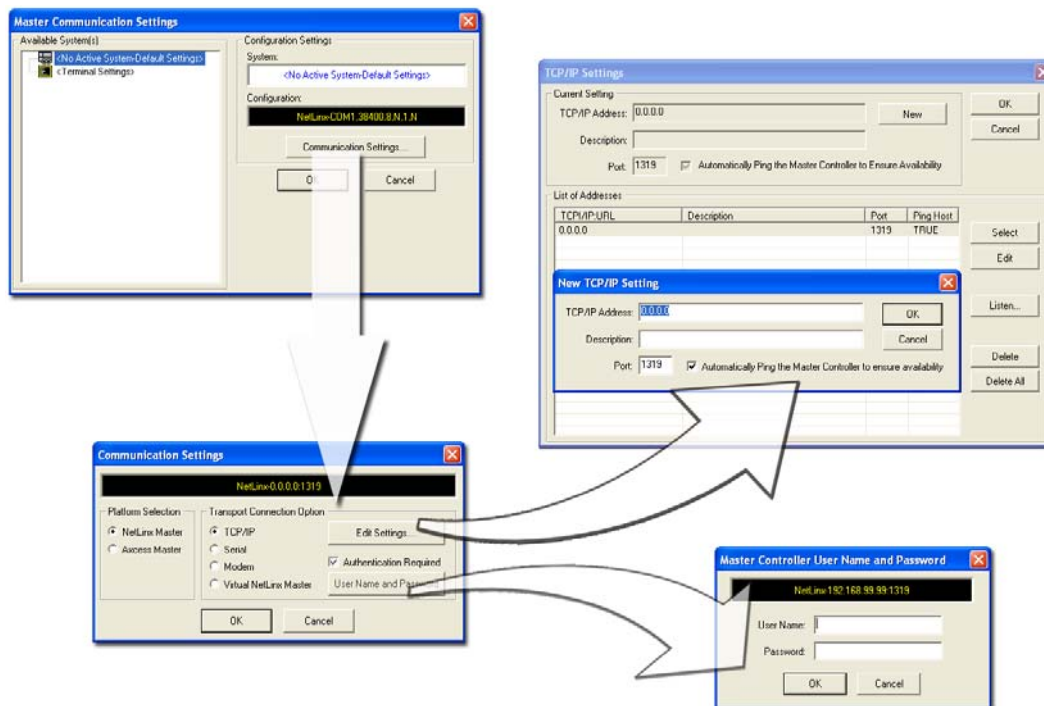

FIG. 93 Assigning Master Communication Settings and TCP/IP Settings
- Select **Settings > Master Communication Settings** from the Main menu to open the Master Communication Settings dialog (FIG. 93).
- Click the **Edit Settings** button (on the *Communications Settings* dialog) to open the TCP/IP Settings dialog (FIG. 93). This dialog contains a series of previously entered IP Address/URLs and their associated names, all of which are stored within Studio and are user-editable.